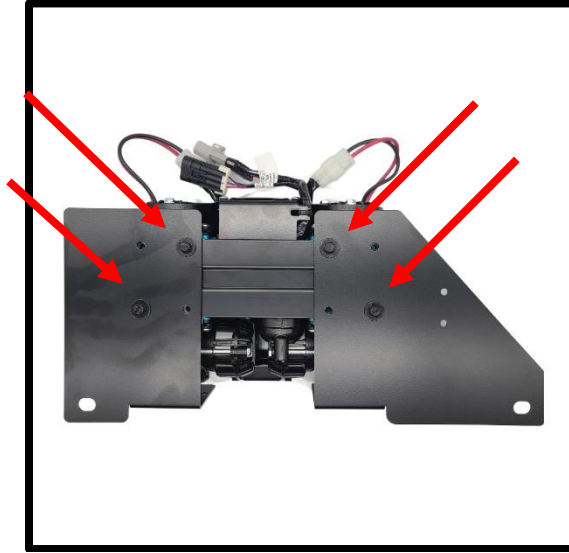

Figure 1
- 1-A) Place the compressor face down with the electrical connectors at top as shown in **Figure 1**. Install the filters provided by ARB on back of compressor. Bolt the two brackets to the compressor, noting the orientation, using the four (4) bolts / washers provided by ARB. Use the holes indicated below. Before tightening, ensure the two halves are parallel.